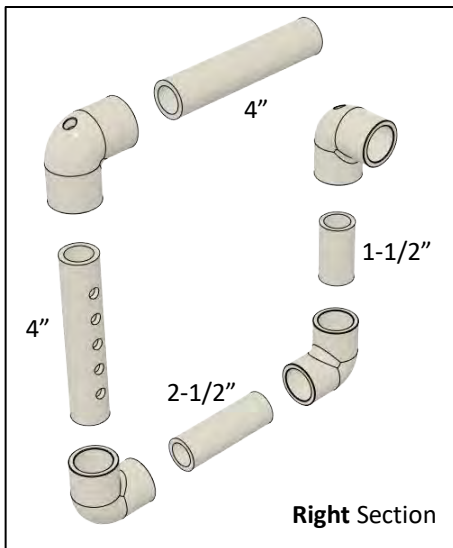
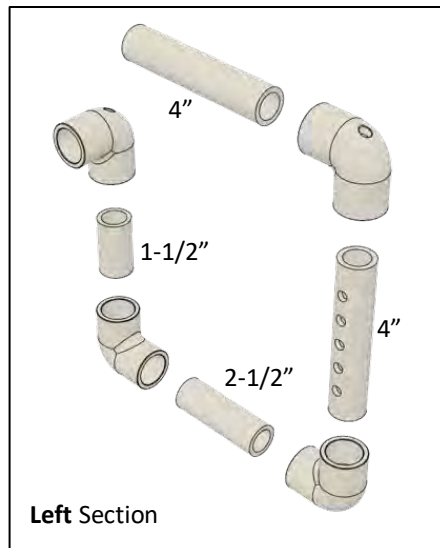

Figure 25
Figure 26
- Assemble one right section (Figure 25) and one left section (Figure 26). These sections are identical except for the orientation of the rear support elbows. Position the thruster mounting pipes with the holes facing as shown.